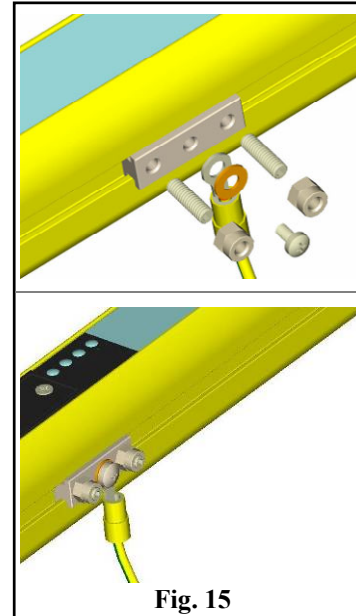

Fig. 15
- If evaluation devices are connected without safe separation, the sender (TX) must be operated in protection class 1 and connected to the protective earth. Use the fixing set supplied for the earthing (see Fig.15) and connect it to a cable with a cable cross section of min. 2.5 mm².